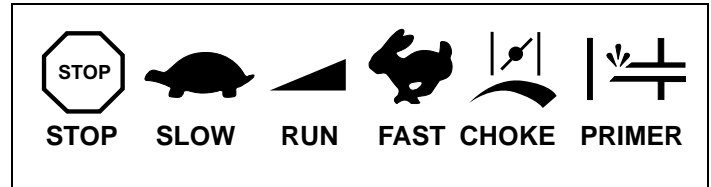

Figure 26. Typical Engine Symbols
3. Move engine speed control to “FAST” position. See Figures 26 and 27.
- c. Finally, move engine speed control to desired speed in “RUN” range. See Figures 26 and 27 on page 13. Afterward, continue reading instructions below.